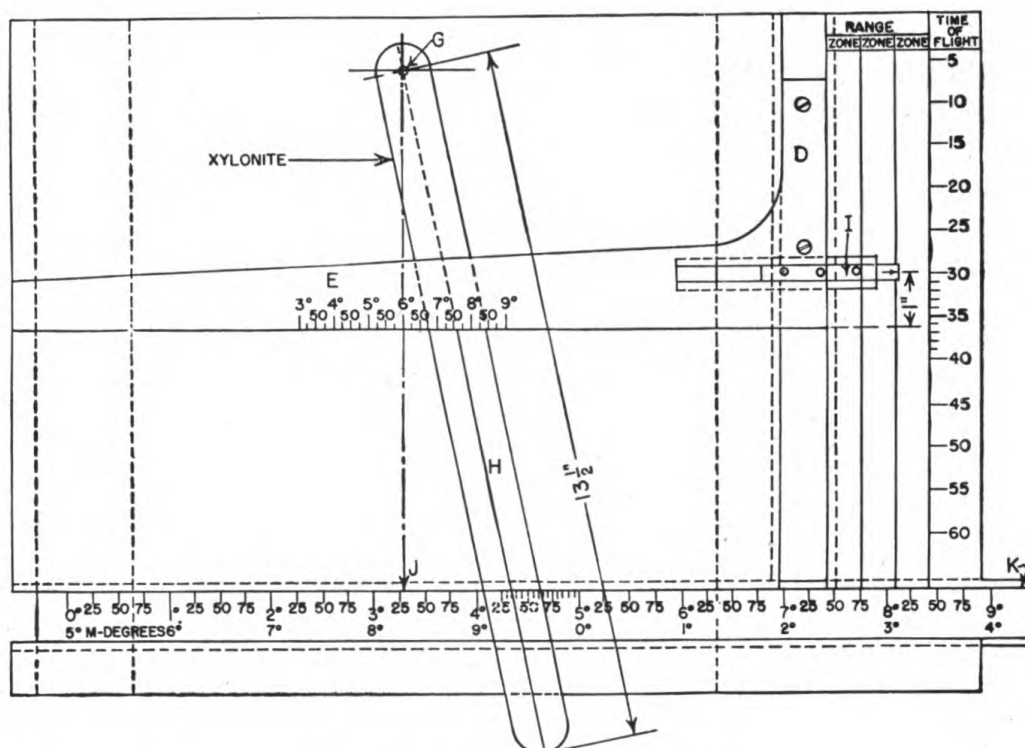

FIGURE 52.—Angular travel computer.
(1) Set the movable slide coincident with the fixed index of the adjustment correction slide and opposite its normal (zero correction).
(2) Move the adjustment correction slide in the proper direction until the amount of the correction is read opposite the fixed index and the marker.
(3) The set index has been displaced by the amount of the correction and readings made on the azimuth tape opposite the read index will give corrected azimuth which includes the adjustment correction.
(4) Move the reference pointer so that it will again be opposite the normal of the adjustment correction slide.
(5) Apply additional adjustment corrections with reference to the index of the marker, and after the corrections have been accomplished always move the marker until it is again opposite the normal of the adjustment correction slide.
*A.* See figure 52.